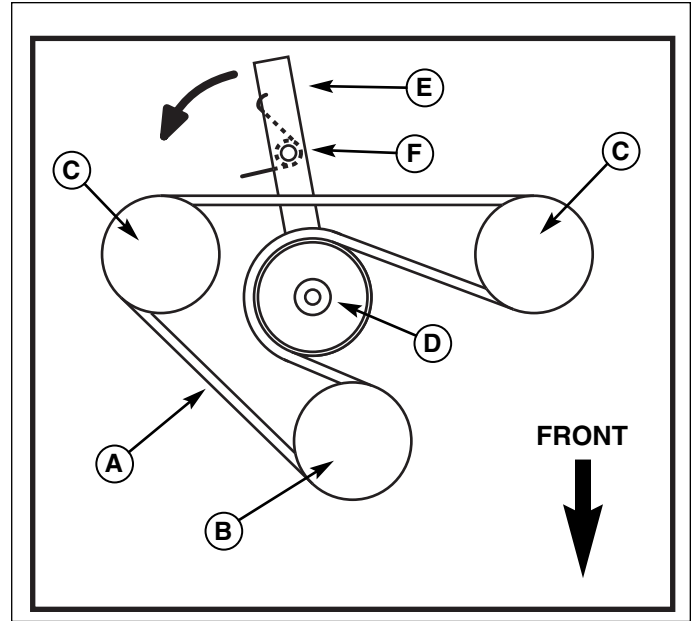

Figure 21. Transmission Drive Belt Replacement (Shown from Below; Components Removed for Clarity)
3. Relieve tension on the transmission belt (A, Figure 21) by moving the idler arm (E) in the direction indicated by the curved arrow, and remove the old belt from the crankshaft and transmission pulleys.